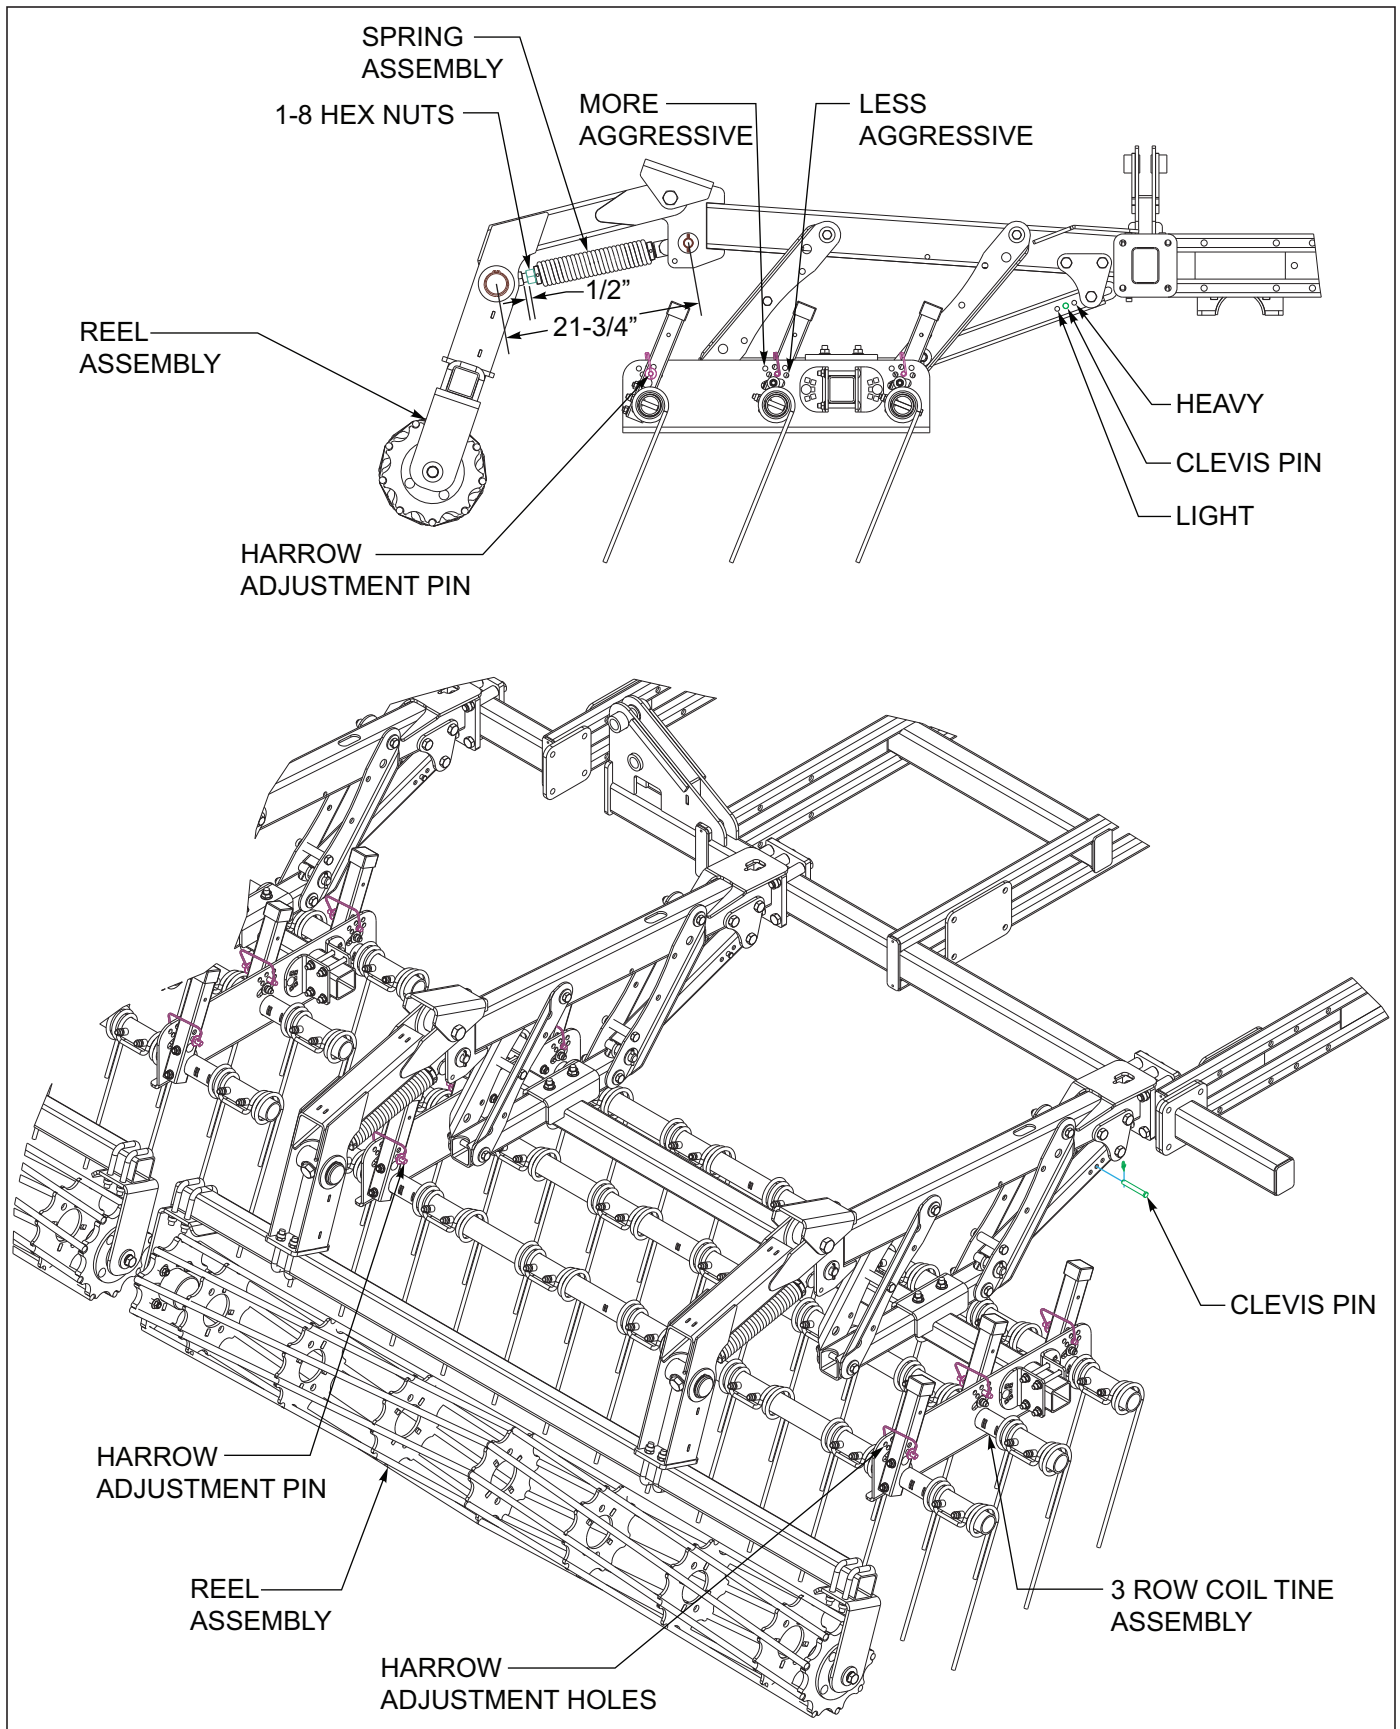

Figure 4-14: 3 Row Coil Tine and Reel Adjustments
3. In general tine harrows have better capabilities for handling more residue and wetter conditions. When operating the coil tine harrow, a more vertical tine tooth angle will make the harrow more aggressive. A lower/flatter tine angle will make the harrow less aggressive but will handle more residue and wetter conditions. To change the tine angle, raise the harrow off the ground. Remove the harrow pin from both angle adjustment tubes per tine gang bar tube See Figure 4-14. Rotate the angle adjustment tubes forward (less aggressive) or rearward (more aggressive) and reinstall both spring clip pins. Repeat the tine adjustment for each tine gang bar tube and harrow section.
4. Each coil tine harrow may be adjusted for spring pressure as well See Figure 4-14. Raise the tine harrow off the ground. Remove the clevis pin from the spring tube and install in a heavy or light setting as needed. **Excessive spring pressure and tine angle can overload harrow spring.**
6. To adjust the reel height, loosen the locking hex nut against the threaded spring end See Figure 4-14.